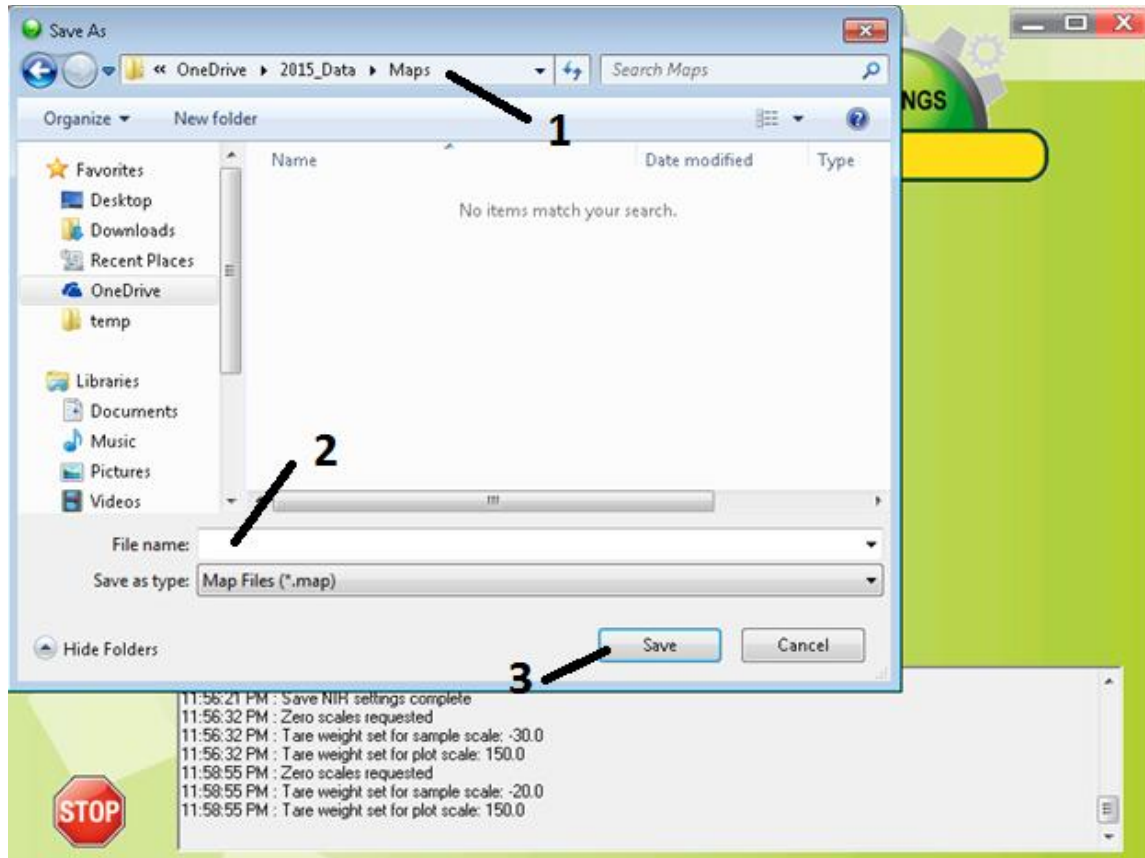

Figure 30. Save Map As
- E. Press Save. Reference Figure 30. Skip to Step 10.